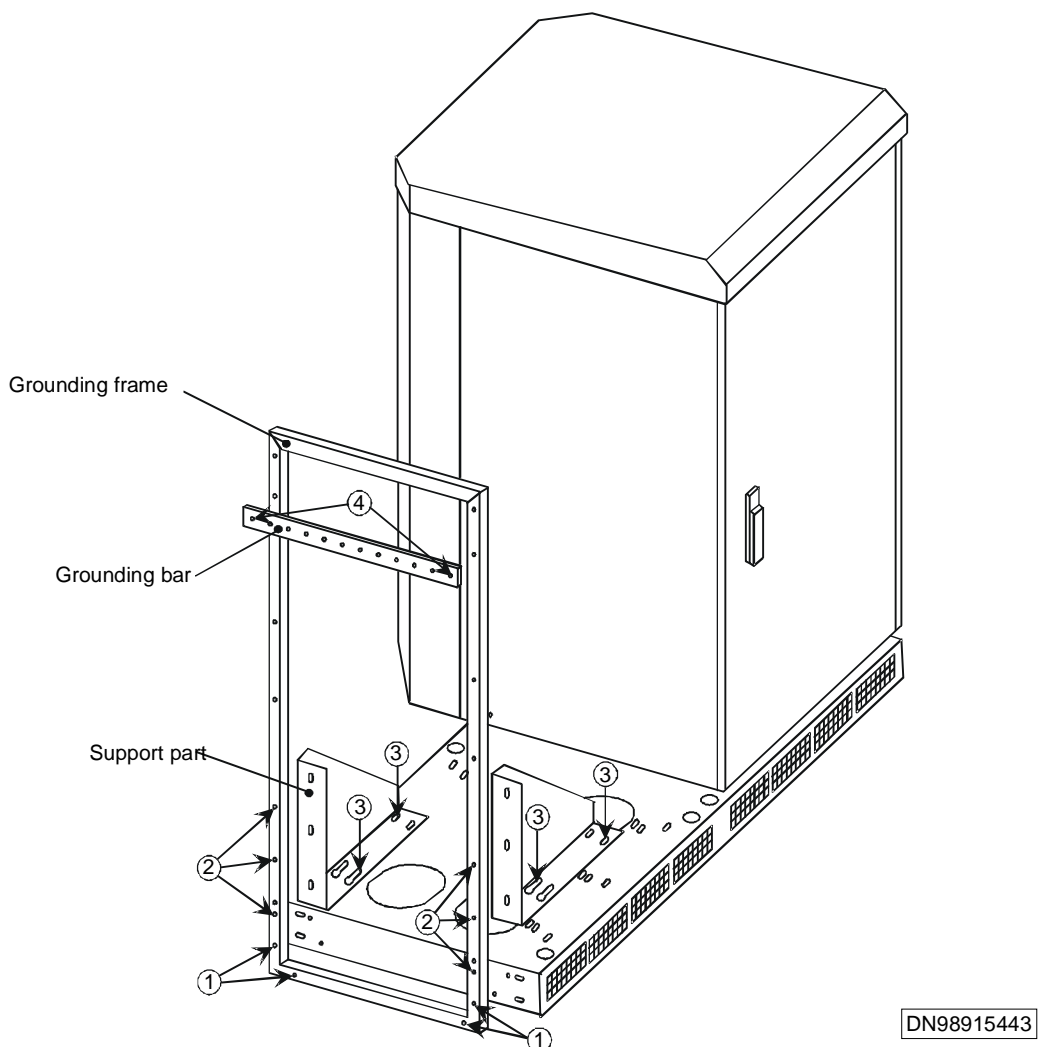

Figure 33 Installing the grounding frame to the double plinth
1. Attach the grounding frame to the plinth with M6 x 40 screws and washers. The fixing points are marked with (1) in Figure 33
2. Position the support parts onto the plinth as shown in Figure 33.
3. Fasten the support parts to the grounding frame with M6 x 40 screws and washers. Hand tighten the screws. The fixing points are marked with (2) in Figure 33.
4. Fasten the support parts to the plinth with M8x20 screws and washers. Hands tighten the screws. The fixing points are marked (3) in Figure 33.